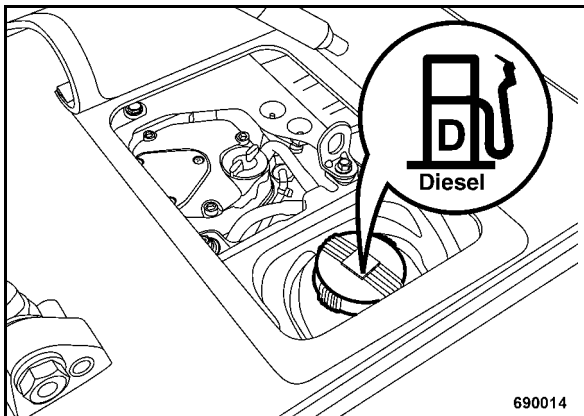

Fig. 42
- Open the filler cap on the fuel tank (Fig. 42) and check the fuel level visually.